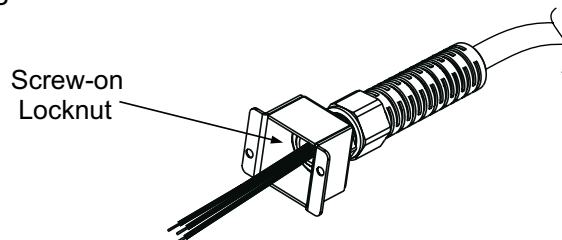

Fig.3-2: Stripped Wires installed in Strain Relief
3. Slide the helix-shaped body onto the AC cable. Insert the stripped wires through the strain relief base until the outer cable jacket is flush with the edge of the base. Tighten (16-18 Lb-inch.) the body to the base while holding the cable in place. Now the cable is securely fastened inside the strain relief. Refer to Fig.3-2.